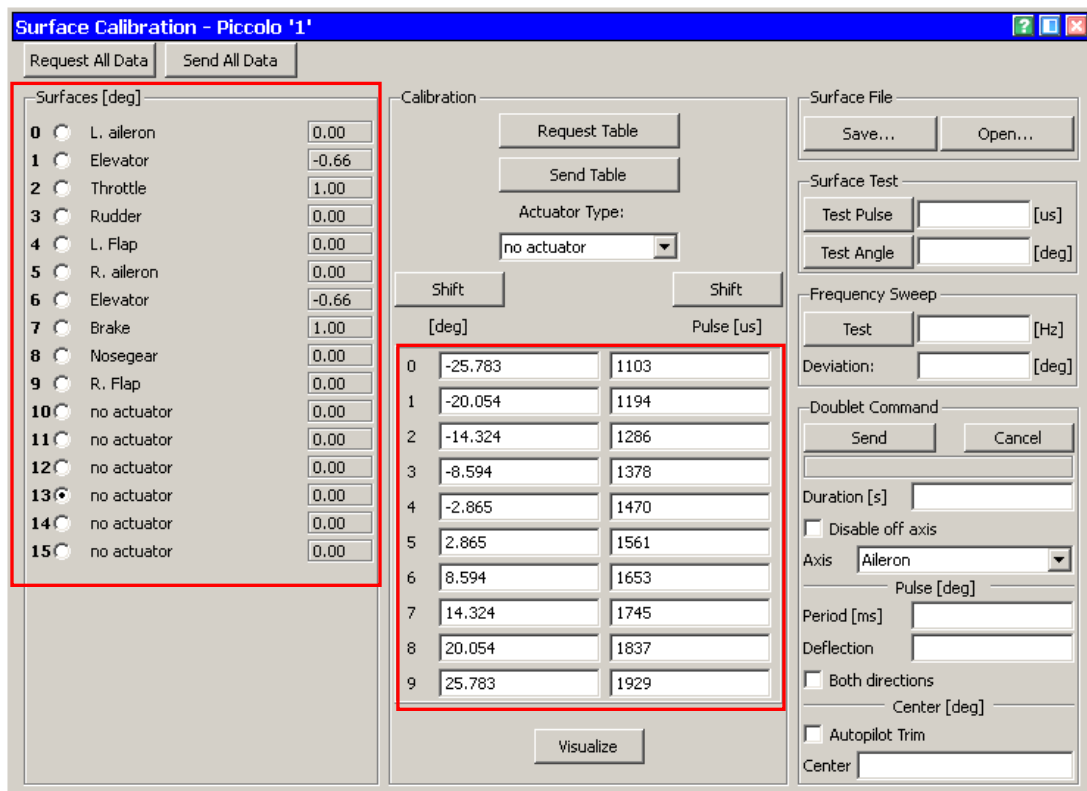

Figure 3 - Surface Calibration Window
1. In the **Surface Calibration** window (**Figure 3**) under **Surface**, select the surface number you want to calibrate.
Although the pulse width column shown is regularly spaced, this is not required. Note the pulse width values of 1103 and 1929 in **Figure 3**. These correspond to $\pm 100\%$ pulse width as measured from a Futaba pilot console. You should find the minimum and maximum pulse widths appropriate to your gimbal.